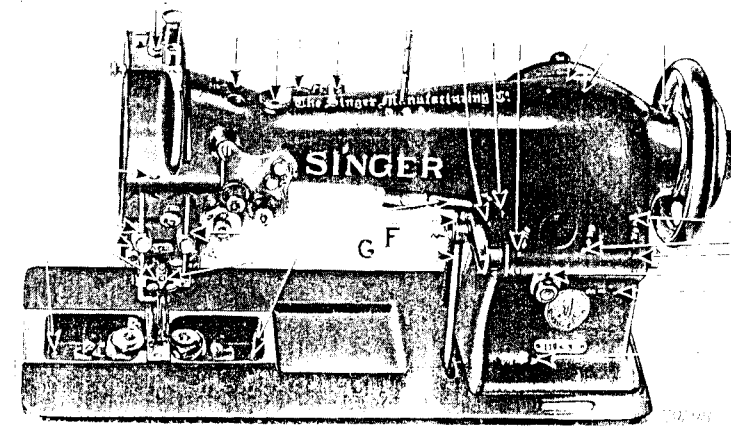

Fig. 2. Oiling Points at the Front of the Machine
Oil should be applied at each of the places designated by arrows in Figs. 2, 3, 4 and 5. When the machine is in continuous use, it should be oiled at least twice each day.
The length of stitch is regulated by moving the end of the connection (G, Fig. 2) which is fastened by the hexagon nut (F, Fig. 2) in the slide on the upright part of the arm. To increase the length of stitch, loosen the hexagon nut (F) and move the connection away from you in the slide. To shorten the stitch, move the connection toward you in the slide. When the desired length of stitch has been obtained, tighten the hexagon nut (F). Care should be taken to see that the length of stitch is adjusted according to the material which is being sewn. A stitch that is too short will not leave a sufficient number of threads between the openings in fine material. If the stitches are made too close together, they may be cut by the piercer.